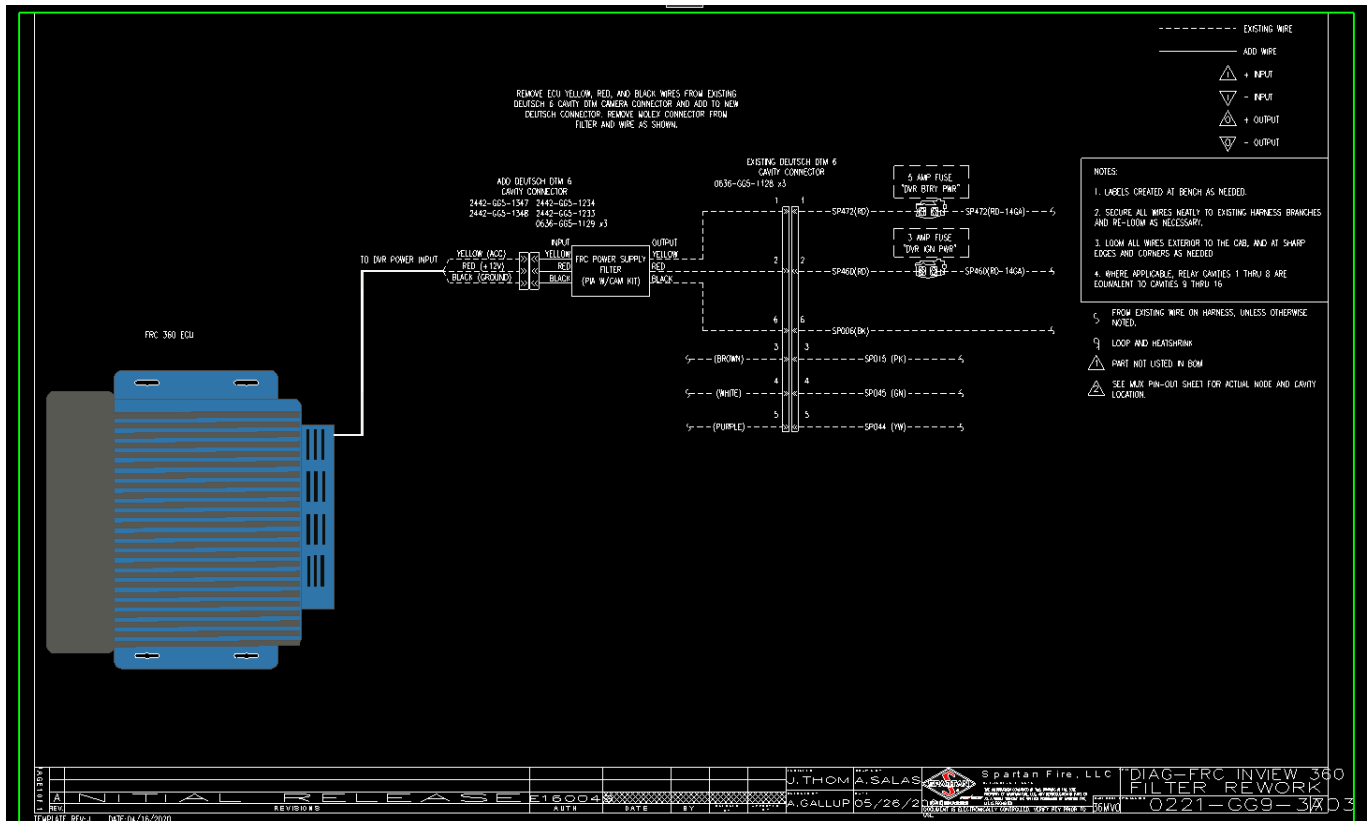

FIG. 4.1
10. Install FRC Power Supply Filter (from kit #4887-NN2-009) using the deutsch connector and terminals as shown in Figure 4.1.